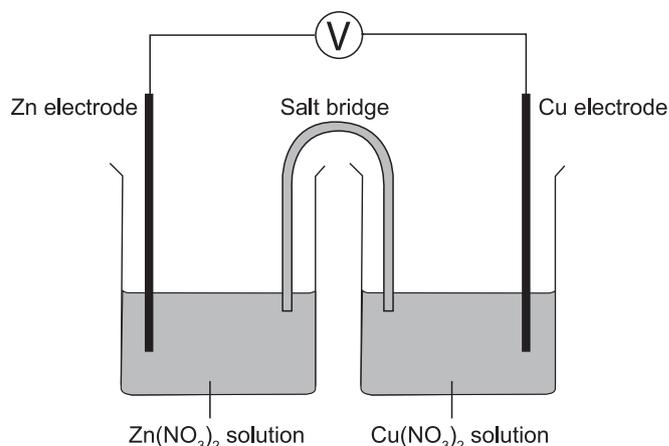

Figure 25.1
3. Soak a folded filter paper in saturated NH4NO3 solution and use the wet paper to bridge the solutions in the two beakers as shown in Figure 25.1. Make sure that the ends of the paper dip into the two solutions but are not touching the metal electrodes.